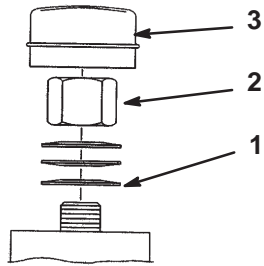

Figure 58
2. Remove the dust cap from the caster and tighten the locknut (Fig. 58).
3. Tighten until the spring washers are flat and then back off 1/4 turn to properly set the preload on the bearings (Fig. 58).
Important Make sure that the spring washers are installed correctly as shown in Figure 58.